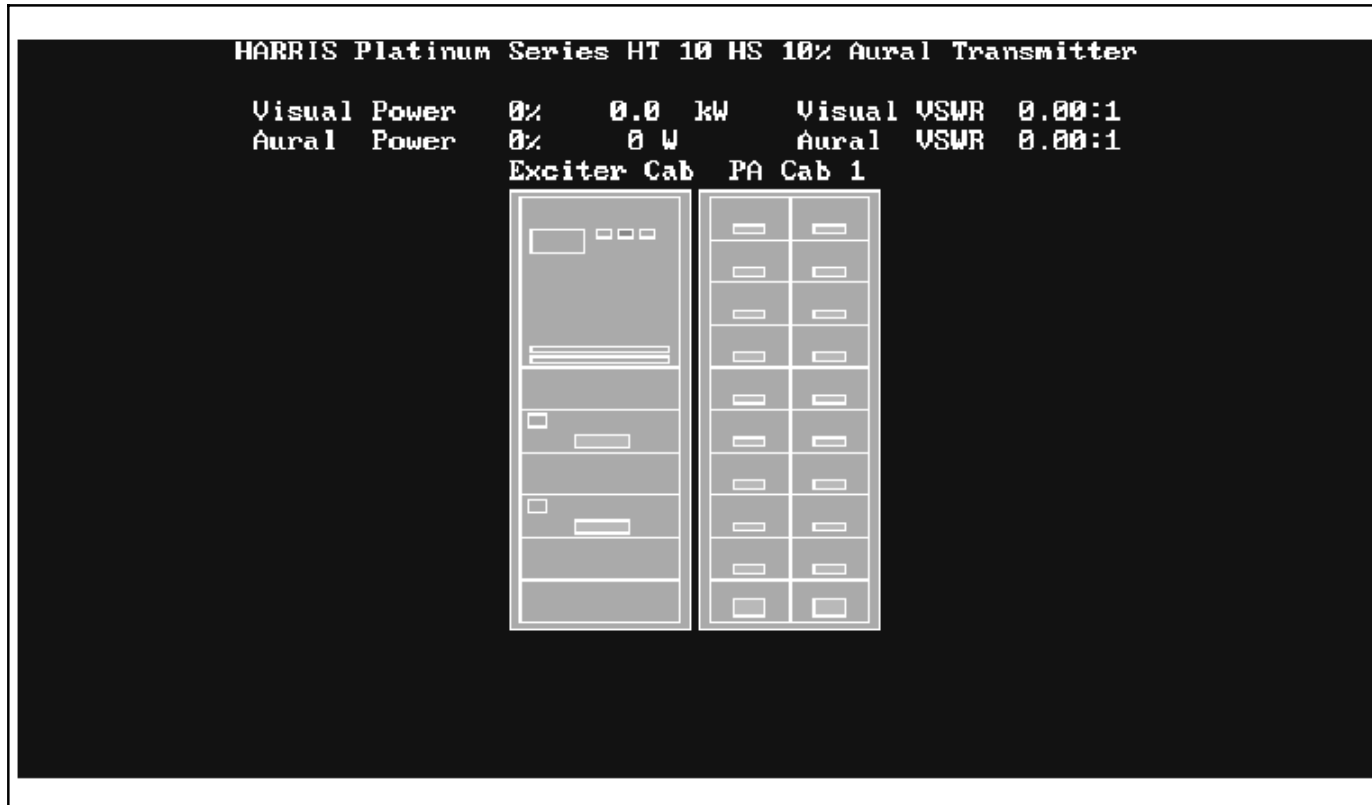

Figure 3-2
A drawing of the front of the transmitter, the Transmitter Display Screen, should appear (Figure 3-2). The drawing shows all of the transmitter cabinets as they are actually arranged.
- The Transmitter Display Screen (Figure 3-2)